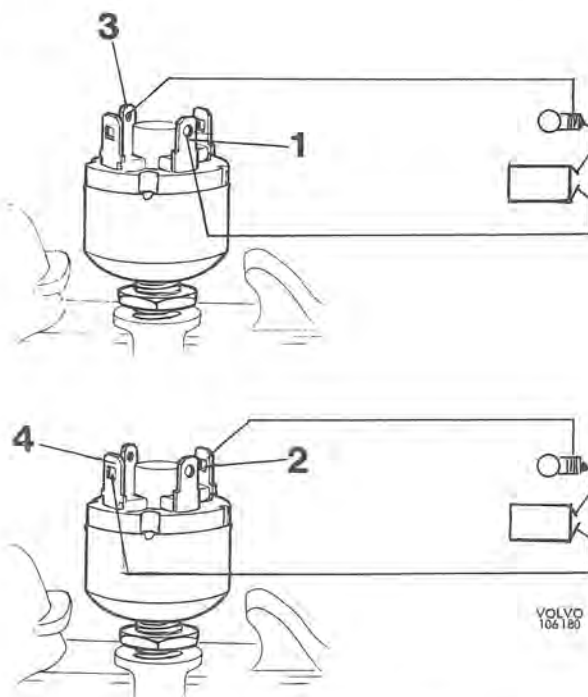

Fig. 4-72. Adjusting starter inhibitor
3. Connect a control lamp to the starter inhibitor terminals (1 and 3) as shown in Fig. 4-72. Screw in the switch until the lamp goes out. Mark this position on the housing and switch with a pencil.
4. Connect the control lamp to both the other terminals (2 and 4) at the bottom of Fig. 4-72. Screw in the switch until the lamp lights again and then mark the switch again. Then screw back the switch to halfway between both the marks. Lock with the locknut. Connect the leads.